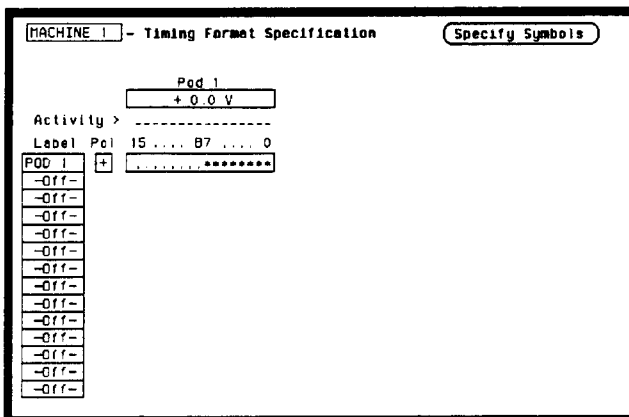

Figure 3-37. Threshold Accuracy Format Specification
3. Configure the **Timing Format Specification** for a **User Defined** pod threshold of 0.0 V for the pod under test and assign the lower eight bits in the bit assignment field as in figure 3-37. Refer to steps a through c if you are unfamiliar with menus.